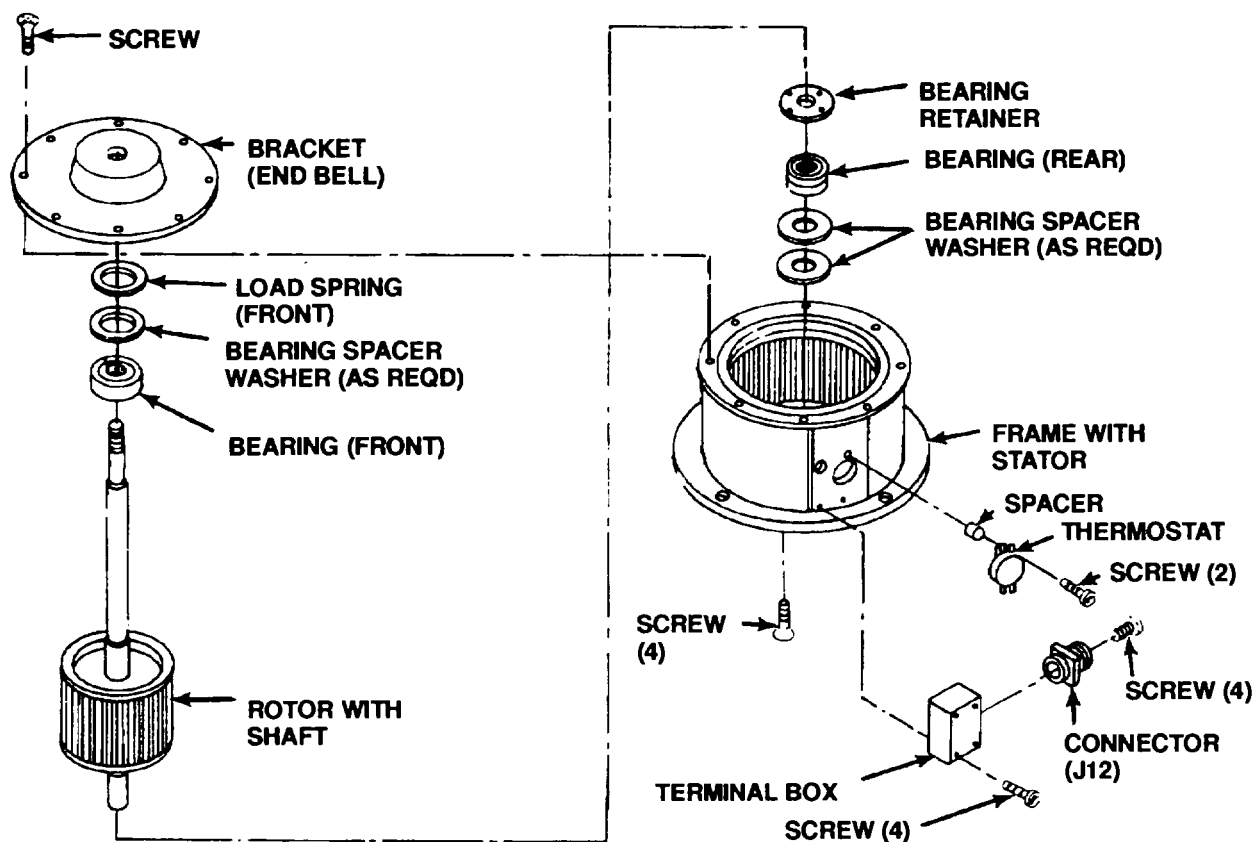

Figure 5-1. Evaporator and Condenser Fan Motor (Welco)
- b. Disassembly (Welco or IMC). Disassemble motor only as necessary to do required repair. (See Figure 5-1.)
(1) To replace connector (J12)(Welco):